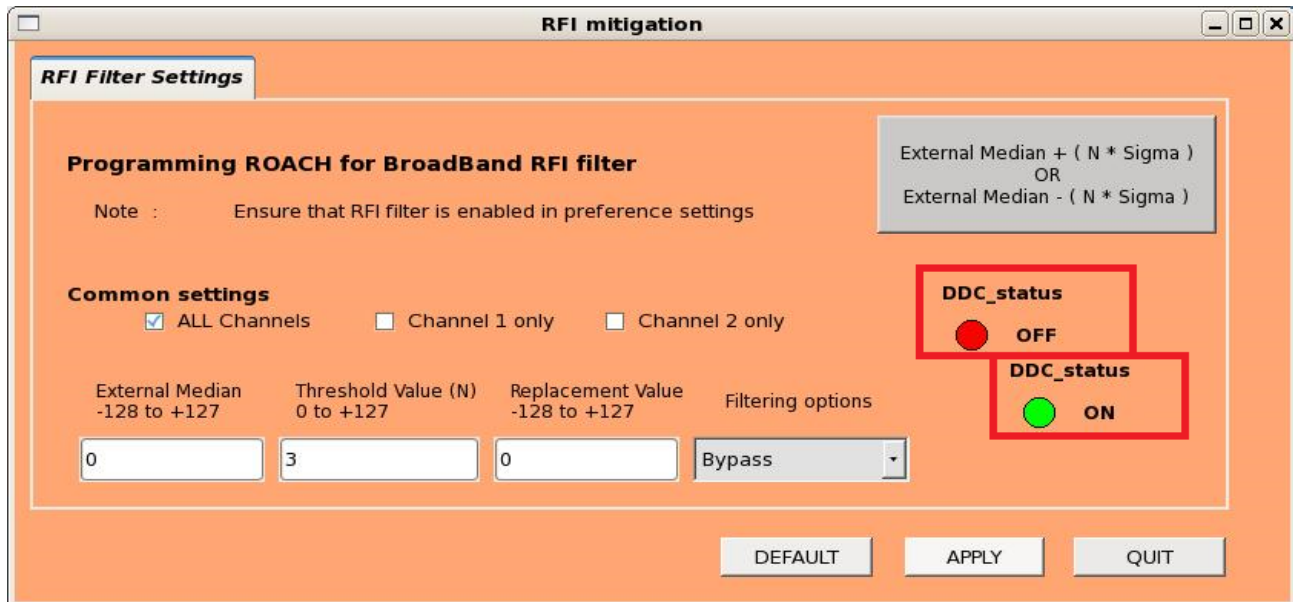

Fig. 1: RFI filtering GUI
2. Open the *gwbcorr* GUI, go to Tools and select *RFI FILTERING*. The following window will pop up as shown in Figure 1. This window should be opened as an independent window alongside of the main GUI.